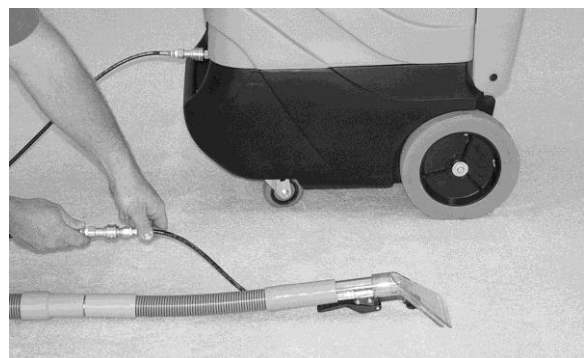

Fig. 7
1. Connect accessory tool hoses to the couplers at the end of the hoses already attached to the machine. (Figure 7).